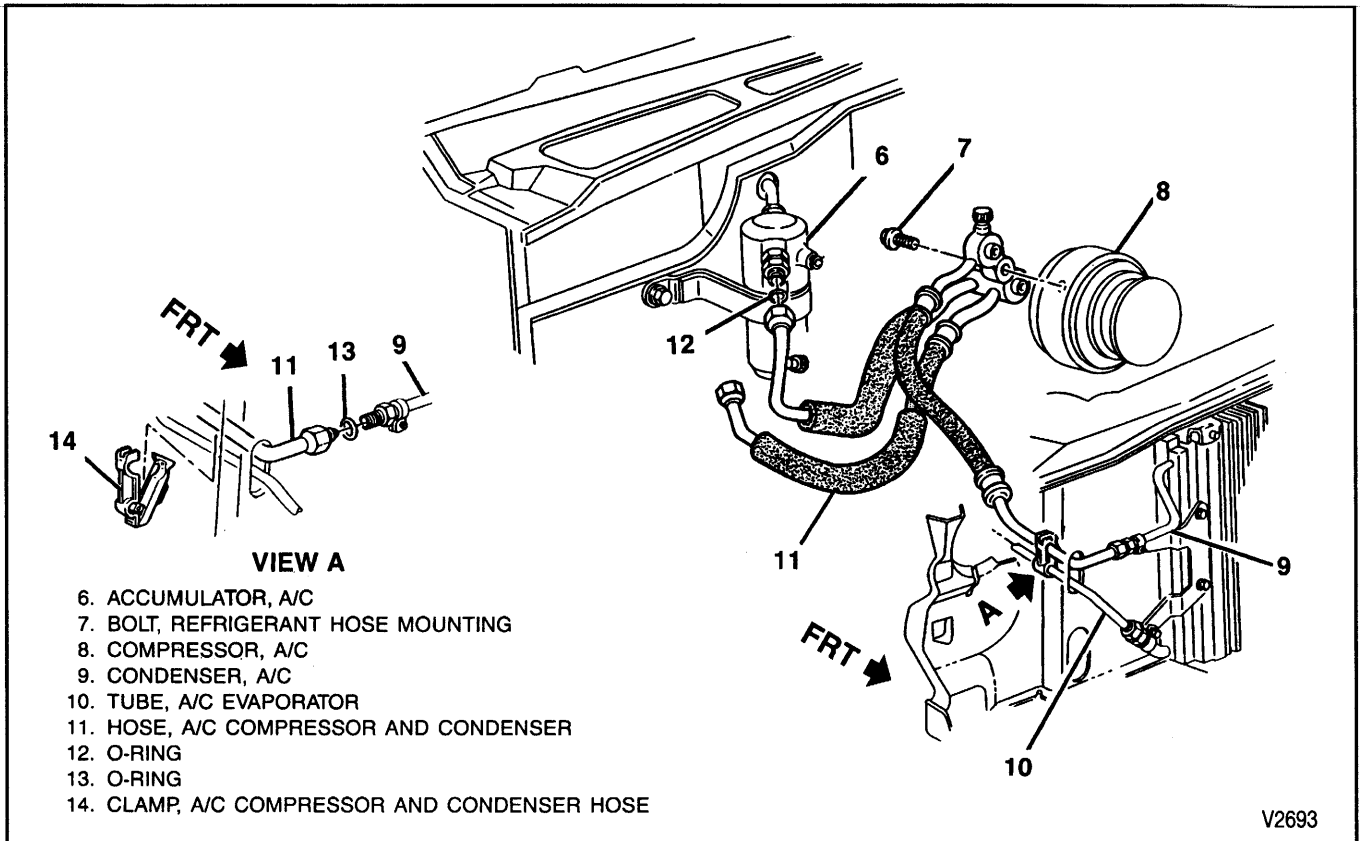
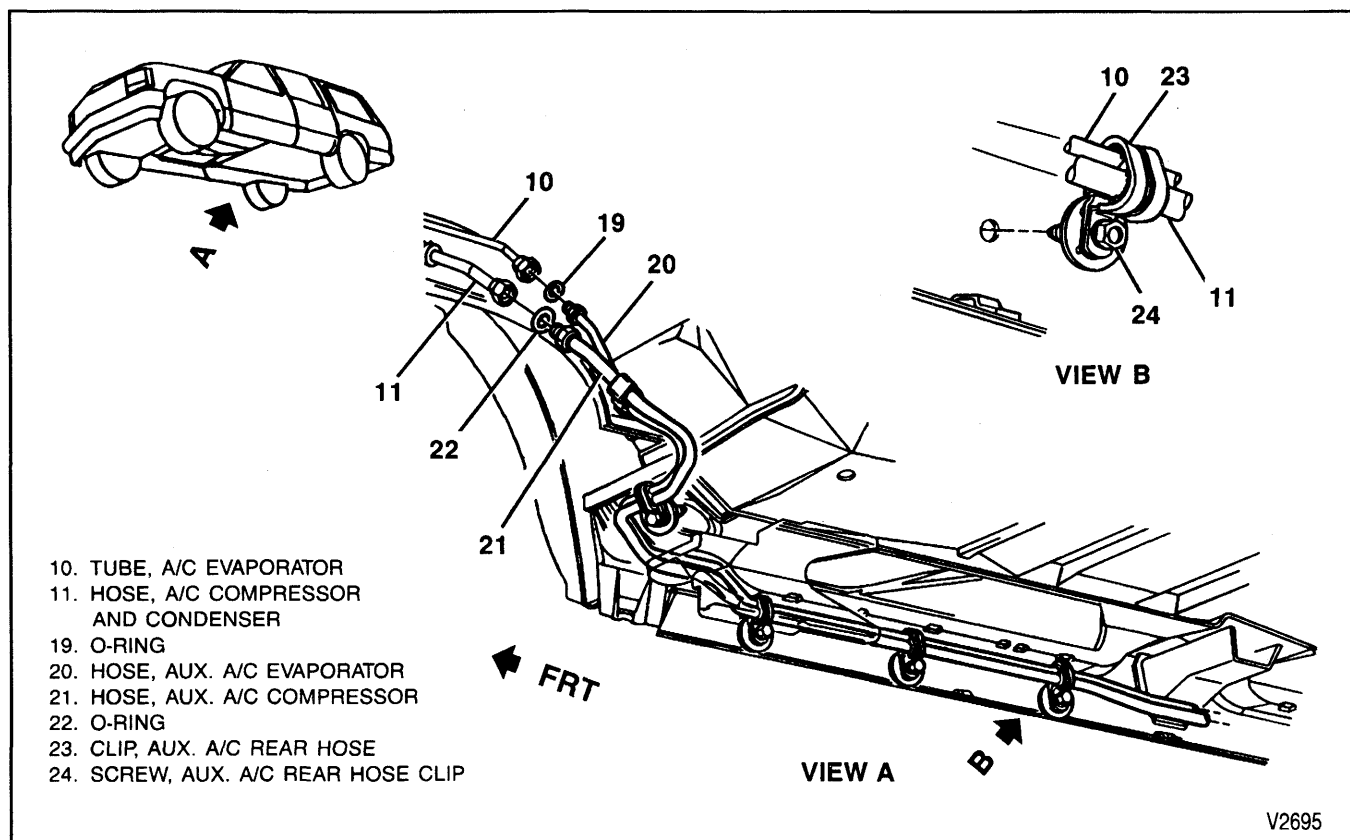

Figure 43—Compressor and Condenser Hose Assembly (7.4L Engines)
Figure 44—Auxiliary Compressor and Condenser Hose Routing
4. Bolt (7).
5. Hose assembly (11) from rear of the compressor (8).
7. Hose assembly (11) from accumulator (6).
8. O-ring seal (12).
10. Hose assembly (11) from condenser (9).
11. O-ring seal (13).
12. Hose assembly (11) from auxiliary compressor hose (21) (figure 43).
13. O-ring seal (22).
1. New O-ring seal (22).
2. Hose assembly (11) to auxiliary compressor hose (21) (figure 43).
5. Refrigerant hose assembly (11) from auxiliary compressor hose (21) (figure 43).
6. O-ring seal (22).
8. Auxiliary evaporator hose (20) from auxiliary evaporator (26) (figure 44).
9. O-ring seal (25).
10. Auxiliary compressor hose (21) from auxiliary evaporator (26) (figure 44).
11. O-ring seal (25).
12. Screws (24).
13. Hose clips (23).
14. Auxiliary evaporator hose (20).
15. Auxiliary compressor hose (21).
- Screws (24) to 6 N-m (53 lbs. in.).
5. New O-ring seal (25).
6. Auxiliary compressor hose (21) to auxiliary evaporator (26) (figure 44).
- Auxiliary compressor hose (21) to 32 N-m (24 lbs. ft.).
7. New O-ring seal (25).
8. Auxiliary evaporator hose (20) to auxiliary evaporator (26) (figure 44).
- Auxiliary evaporator hose (20) to 17 N-m (13 lbs. ft.).
10. New O-ring seal (22).
11. Refrigerant hose assembly (11) to auxiliary compressor hose (21) (figure 43).